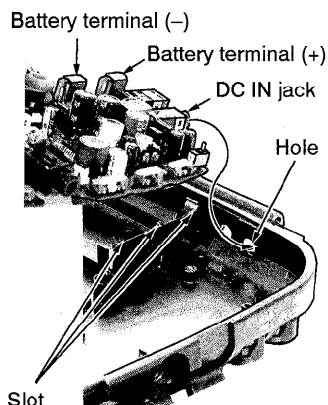

Fig. 2
C. Put the DC IN jack into the hole of bottom cabinet ass'y (See Fig 2).
D. Align the battery terminals (+) and (-) with slot of bottom cabinet ass'y (See Fig 2).